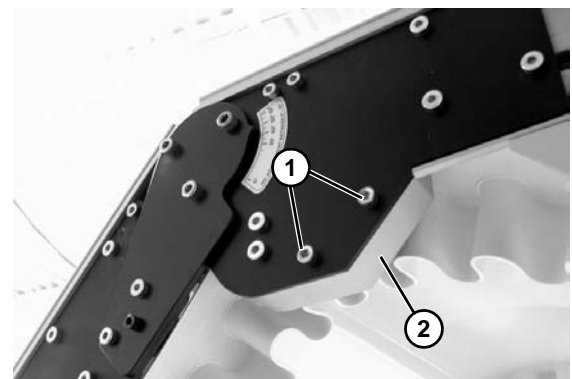

Figure 18
4. If equipped with an upper knuckle, remove screws (**Figure 18, item 1**) and remove guard (**Figure 18, item 2**) on both sides of knuckle.